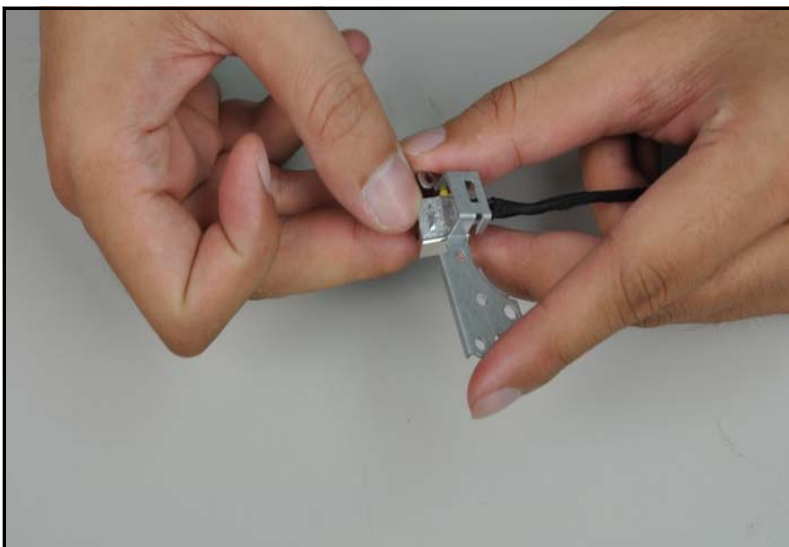

Figure 3-38. DC-in jack bracket removal
2. Remove the bracket from the DC-in jack (Figure 3-38).
1. Place the bracket on the DC-in jack. Refer to Figure 3-38